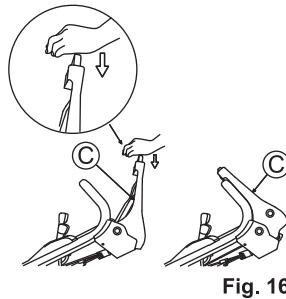

Fig. 16
3. Push the blade lever (C) forward while pressing its yellow button. Then, the blade starts rotating. (See Fig. 16)